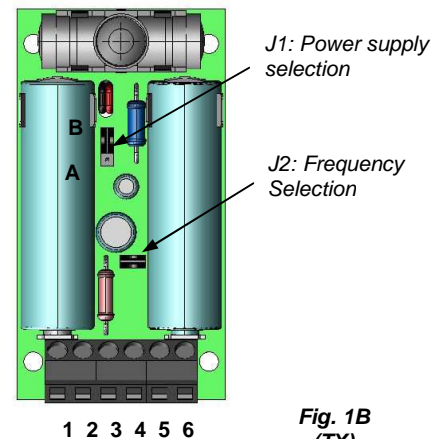

Fig. 1B (TX)
- Make connections as indicated in the previous paragraphs and select the transmitter power supply with the specific jumper (J1, Fig. 1B):
- Connect to the specific terminal strip (terminals 3 & 4, Fig. 1B) the safety edge or external safety device contact to the transmitter. **If this option is not used, jump terminals 3 and 4.**
- Connect to the specific terminal strip (terminals 5 & 6, Fig. 1B) the contacts of the 8K2 resistive edge external to the transmitter. **If this option is not used, do NOT jump terminals 5 and 6.**